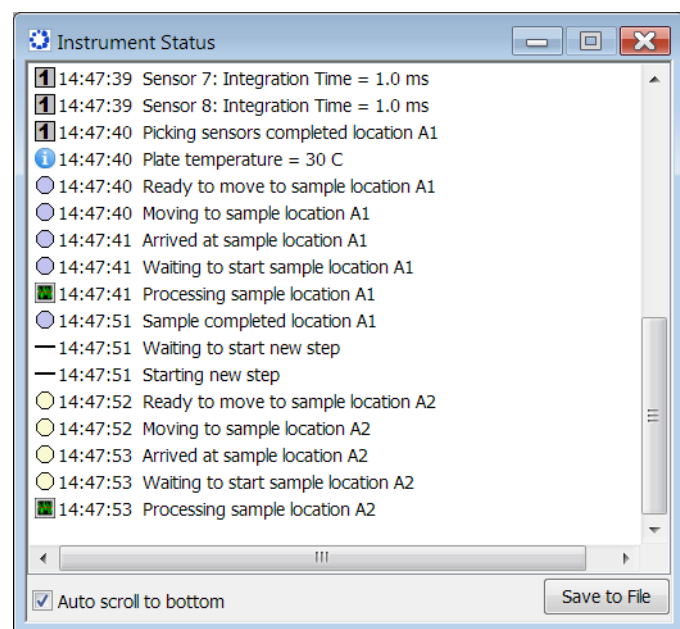

Figure 8-56: Instrument Status Log
- Optional: Click **View > Instrument Status** to view the log file (see Figure 8-56).